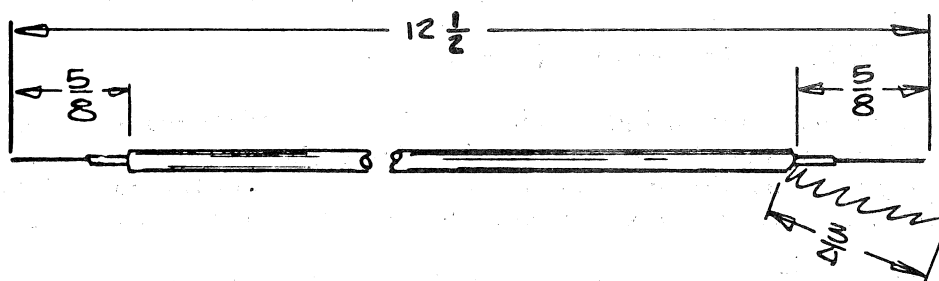

FIG. 1
- a) Prepare cable as shown in Fig. 1.